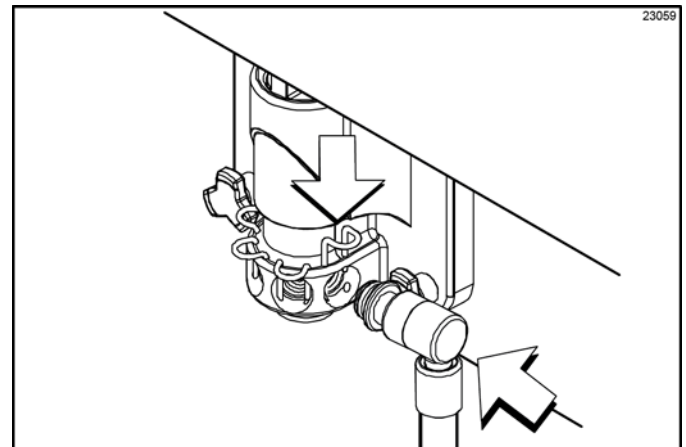

Figure 6-84
27. Lubricate the O-ring. Raise the syrup valve retainer. Install the syrup valve. Push the syrup valve retainer down to hold the valve in place. Repeat this procedure for each syrup valve. (See Figure 6-84.)